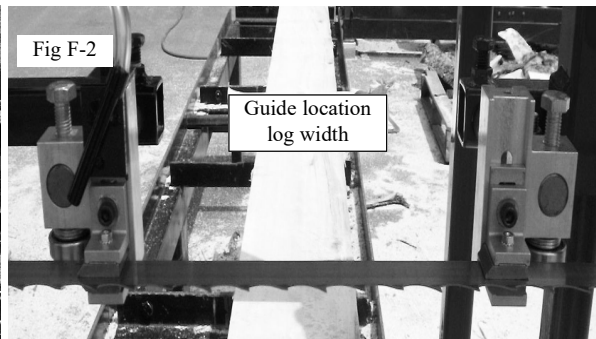

Fig F-2
- 1 - Adjust the Hud-Son guides so that they are slightly (no more than 2 inches) wider than the maximum width of the log. (see Fig F-2)